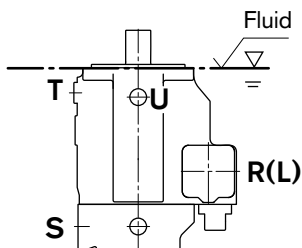

Fig. 1
a) When the minimum fluid level is equal to or above the pump mounting flange area: ports »R/L«, »T« and »S« open (see fig. 1).